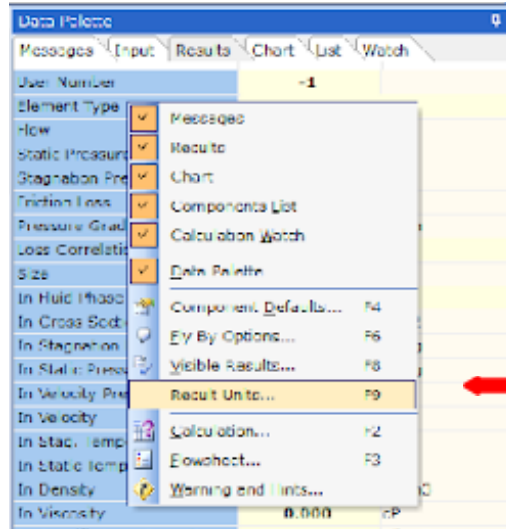

Figure 32: Result Units.
29. We can change our units by right mouse-clicking on the *Results* tab followed by selecting *Results Units* from the drop-down menu (Figure 32).